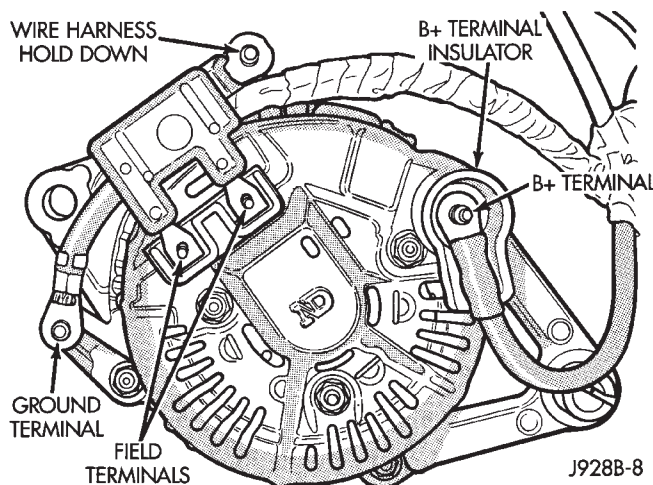

Fig. 9 Remove or Install Connector Assembly
- (8) Remove B+ terminal nut, 2 field terminal nuts, ground and harness holddown nuts (Fig. 9). Remove wire connector assembly.